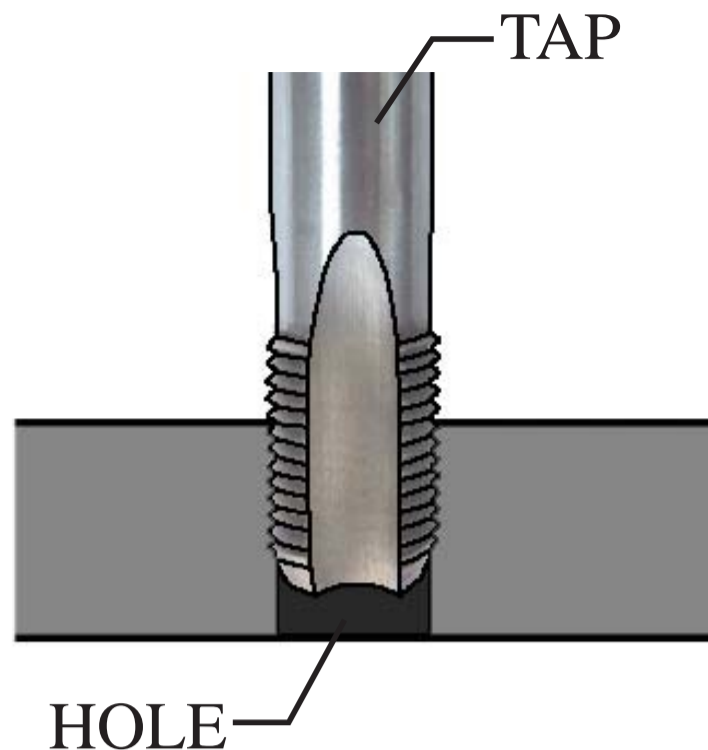

Figure 13
3) Tap the hole using the 1/8" NPT pipe tap. See Figure 13.